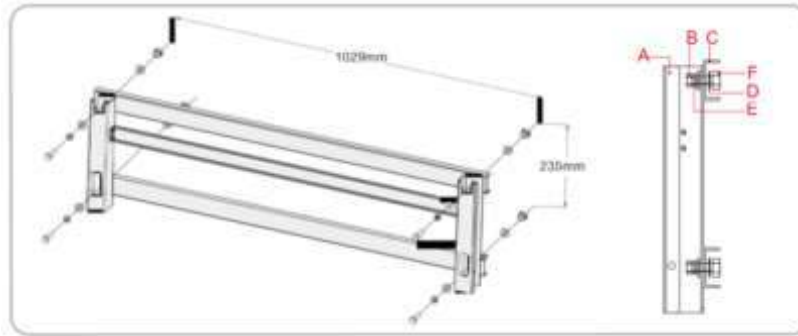

Fig. 4-12 Fastening sequence
3) Secure the mounting-bracket with bolts (Fig. 4-12 and Table 4-3).
- 3) Insert the expansion bolts into the holes and secure them with a rubber hammer. Fasten the nut with a wrench to expand the bolt. Remove the nut, spring washer, and flat washer, and store them properly (Fig. 4-12).